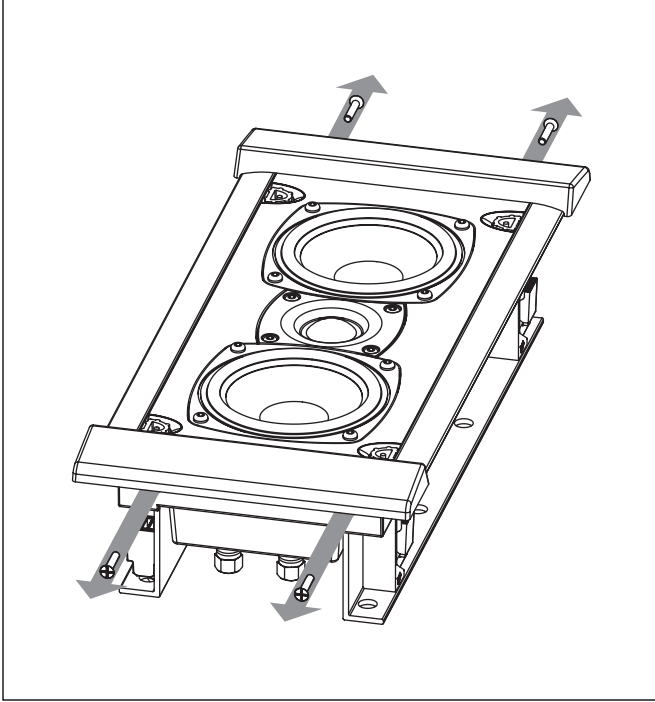

Figure 11. Removing the end caps step 2.
- 2 Using a Phillips head screwdriver remove two screws from the bottom edge of the Ticket (see figure 11).